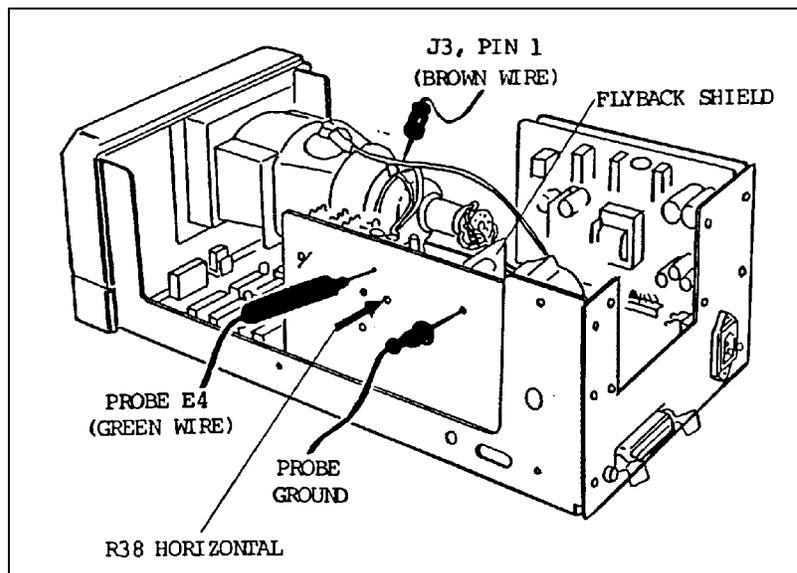
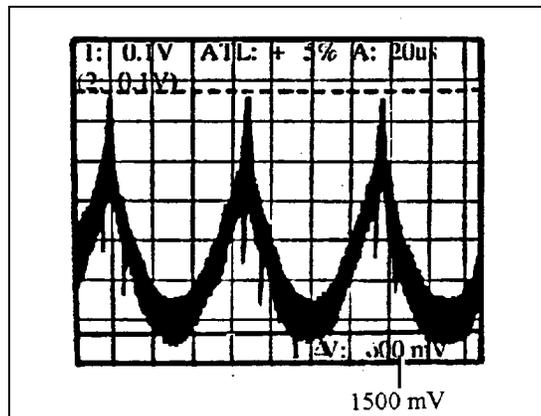

Figure 4-45. CI-5000 COS⁴ Adjustments
Figure 4-46. 1500mV p-p Horizontal Setting (R38)
1. Place the probe ground on the pin side of the flyback shield (Figure 4-45).
2. Attach the probe to E4 (green wire from CRT cap) on the monitor board (Figure 4-45).
- Adjust R38 (Figure 4-45) to obtain 1500mV (1.5V) p-p (Figure 4-46).